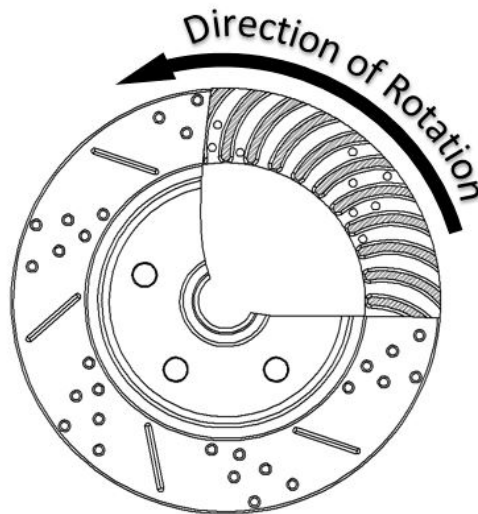

Figure 4 – Direction of Rotor Rotation
8. Slide the rotor onto the spindle. The inner wheel bearing and grease seal should be installed at this point. With the rotor fully pushed onto the spindle, install the outer wheel bearing followed by the keyed washer and the spindle nut. When tightening the spindle nut, tighten to 5-10 ft/lbs. Loosen the nut and tighten again using the same 5-10 ft/lbs. Do this a couple of times spinning the rotor to fully seat the wheel bearings onto the spindle. Loosen the nut a final time and re-tighten to move all play. Tighten approximately an additional 1/16th of a turn to give the appropriate pre-load and line up the cotter pin hole. Install the spindle nut retainer and the cotter pin to secure followed by the grease cap. **NOTE:** The brake rotors are directionally vented regardless of plain or slotted and cross-drilled and therefore must be installed on the appropriate side. The rotors are marked “L” for driver side and “R” for passenger side. Refer to Figures 4 and 5 below for reference.